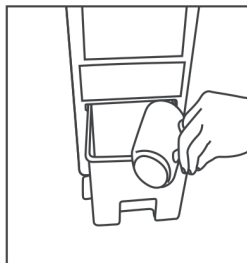

fig.2
- Pull the water tank about 10cm outwards, then add water.(Fig. 2)